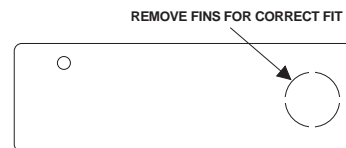

Figure 15. Fin Removal
- Before placing the cover on the sensor, use a needlenose pliers to snap off the circular pattern of fins inside the cover as shown in Figure 15.